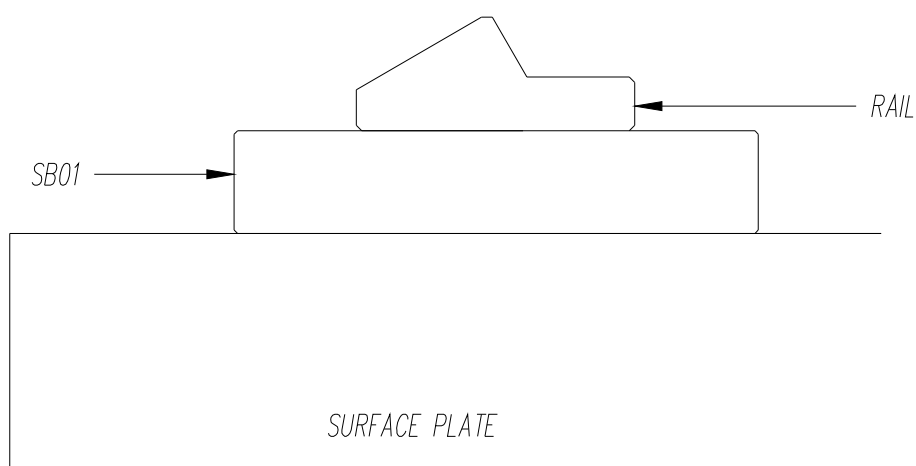

Figure 1
STEP 1. The SB03 and SB04 spacer blocks are designed to aide in off-line presetting of a work piece held in a V08 vise with a TD05 direct-mount truing device. The SB03 spacer block is to be located between the surface plate and R200-50-8M rail on the truing station as shown in Fig. 1.